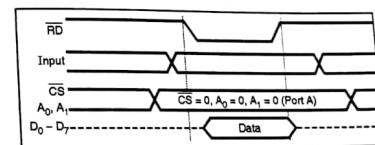

Fig. 9.11.1 : Timing waveforms for mode 0 input mode
- The timing waveform for Mode 0 input mode is as shown in Fig. 9.11.1.